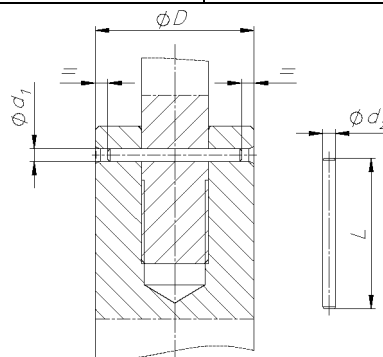

Fig. 13. Connecting the plug and stem with a pin
g) insert the pin (9) into the hole paying attention to maintain uniform distance between the pin and the outer surface of the plug (Fig. 13),